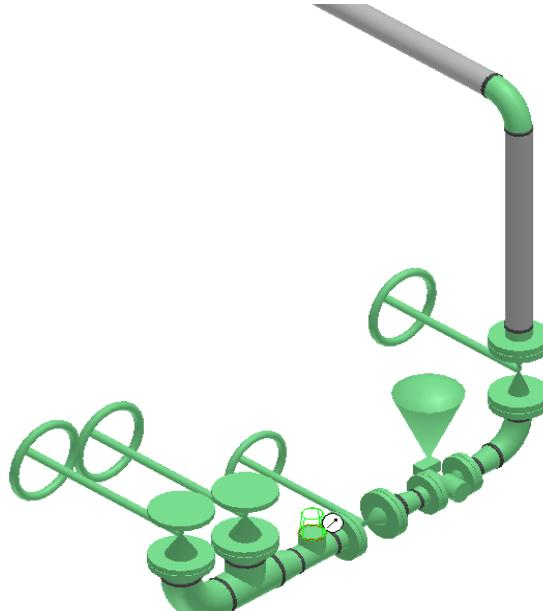

Figure 3. 97: Outlined Concentric Reducer in the Graphic View
56. Click the **Route Pipe** button on the vertical toolbar and locate the end of the concentric reducer, as shown in Figure 3. 98.